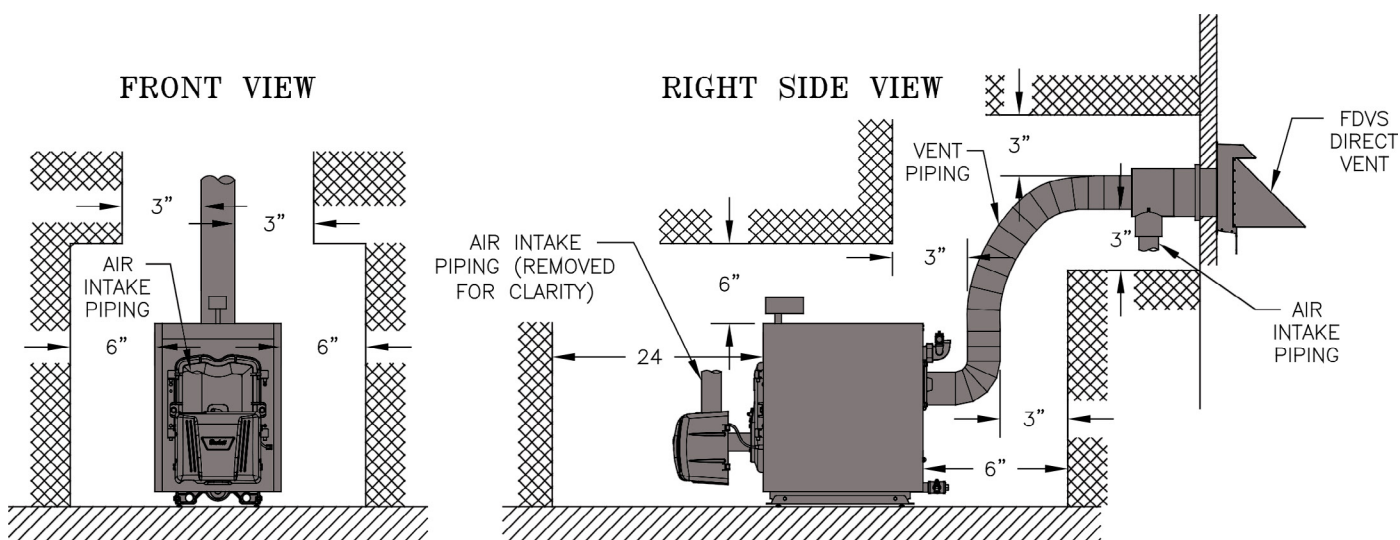

Figure 1-5: Direct Vent - Minimum Installation Clearances To Combustible Materials (Inches)
- 24 in. for rear smoke box cleaning and disconnecting vent pipe from boiler adaptor for servicing (if required) - **Direct Vent** (see Figure 1-5).